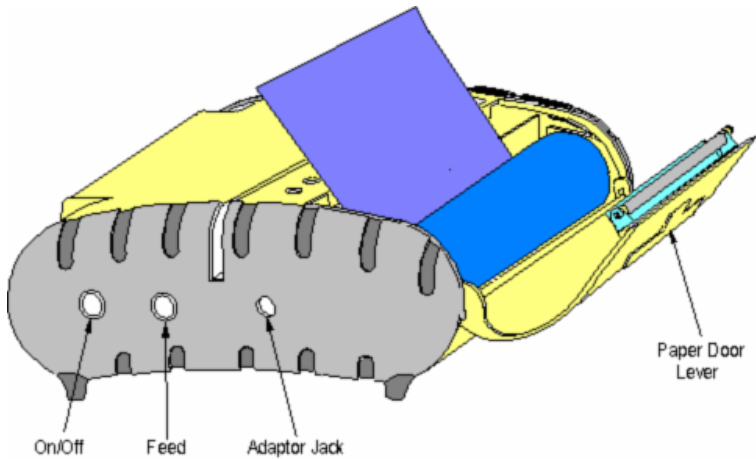

Figure 3:
- Charge the battery by inserting the wall mounted charger line cord into the printer jack (Refer to Figure 3 for location of the jack on the printer). Then insert the charger plug into an appropriate wall socket.
- Place the paper supply roll into the paper supply well. Make sure the paper supply unwinds from the bottom as shown in Figure 3